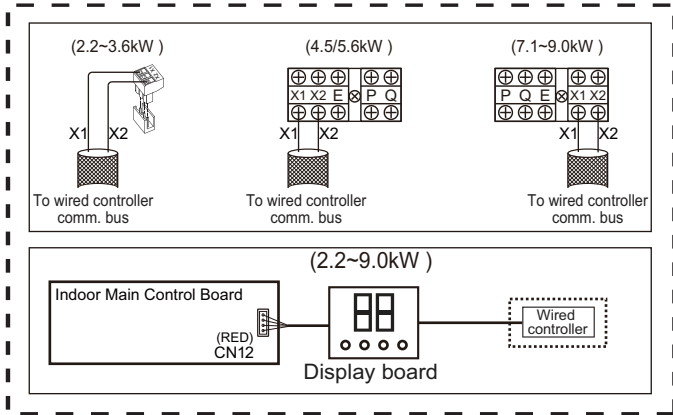

Figure 6.10
- ◆ The X1, X2 ports on the sides of the main control board and the unidirectional communication port (display board side) are for different types of wired controllers (see Figure 6.10).